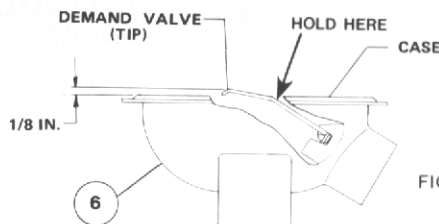

FIGURE 3
4. To change the lever height, insert the slot on the tool onto the lever just below the bend point. (see figure 3).
8. Insert new exhaust valve (12) from the outside of second stage body.
9. Install the diaphragm, (5) the front cover (4) and the lock (17).
10. Place your thumb in the opening in the exhaust Tee (14) and stretch it over the boss on the second stage body. Secure it with a screw (10) and washer (11).